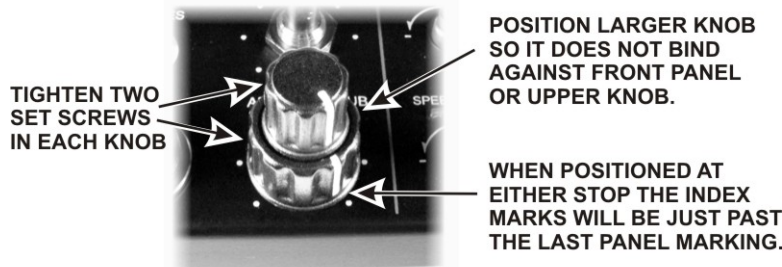

Figure 47. Mounting Concentric Knobs.
□ Place the larger of a pair of concentric knobs over the RF/SQL - SUB control as follows (See Figure 47):
- Place the smaller knob over the shaft, align its index line as shown in Figure 47 and tighten one set screw with a 0.050" Allen wrench.